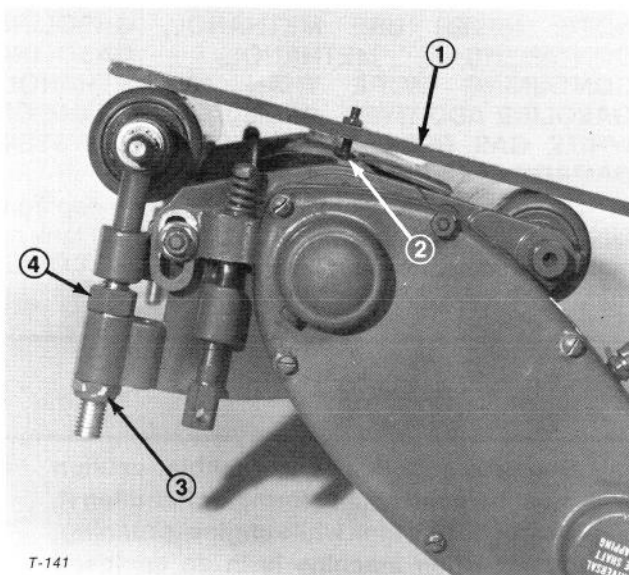
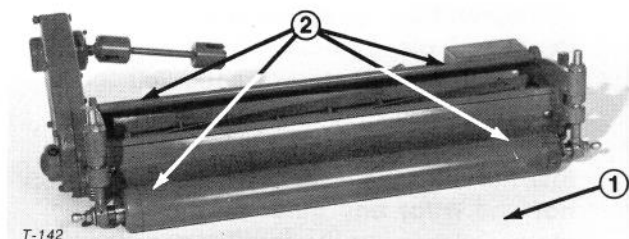

Figure 8
Figure 9
3. Place cutting unit upside down on bench, position gauge bar on end of unit with one end on front support: skid, full roller, sectional roller, etc., the other end on rear roller (Fig. 8).
4. Loosen top nut on adjusting screws on each side plate (Fig. 8) and turn adjusting nut to raise or lower front roller or skid assembly (Fig. 8). Raise or lower rollers until they contact out end of gauge bar. When proper adjustment is obtained, screw head on gauge bar will just pass over cutting edge of bedknife (Fig. 8). ASSURE HEIGHT-OF-CUT IS EXACTLY IDENTICAL AT BOTH ENDS OF BEDKNIFE.
5. Tighten top nuts to secure roller adjustment (Fig. 8). Turn cutting unit over and place on a level surface (Fig. 9). Press down on each end of the front and rear rollers (Fig. 9). Each roller should contact level surface completely across unit (Fig. 9). If rollers do not contact, repeat steps 3 and 4.